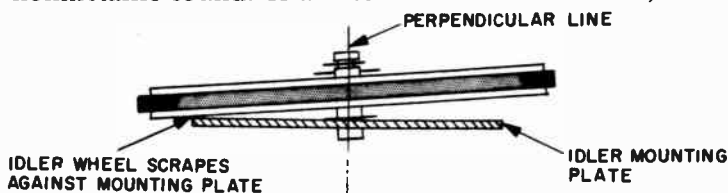

Fig. 319. *Idler-wheel mounting shaft may be tilted, producing condition shown above.*
2. The drive and idler wheels should be level. If the mounting shaft is slanted, the wheel will tilt (see Fig. 319) and the edge may scrape the assembly mounting. Straighten the shaft.